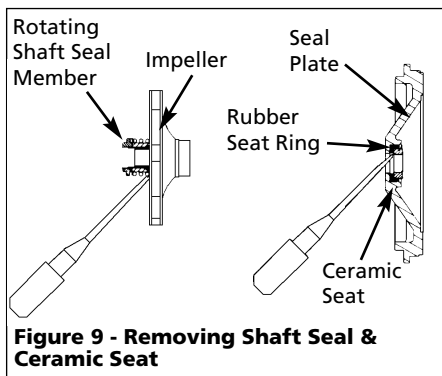

Figure 9 - Removing Shaft Seal & Ceramic Seat
- Pry the rotating shaft seal member from the impeller (Figure 9).
- Push or pry the ceramic seat free from the seal plate (Figure 9).